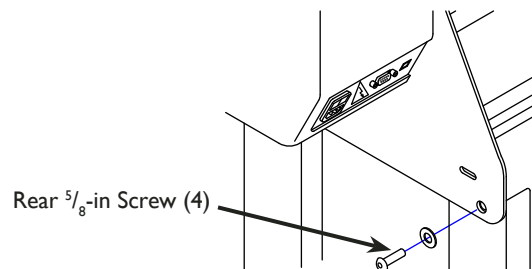

Figure 12. Loosely attach the head to the stand with the screws and washers.
4. Insert two $\frac{5}{8}$ -in button-head screws with one washer each through the holes in the back of both end plates to connect the head to the stand. Leave the screws loose (**Figure 12**).